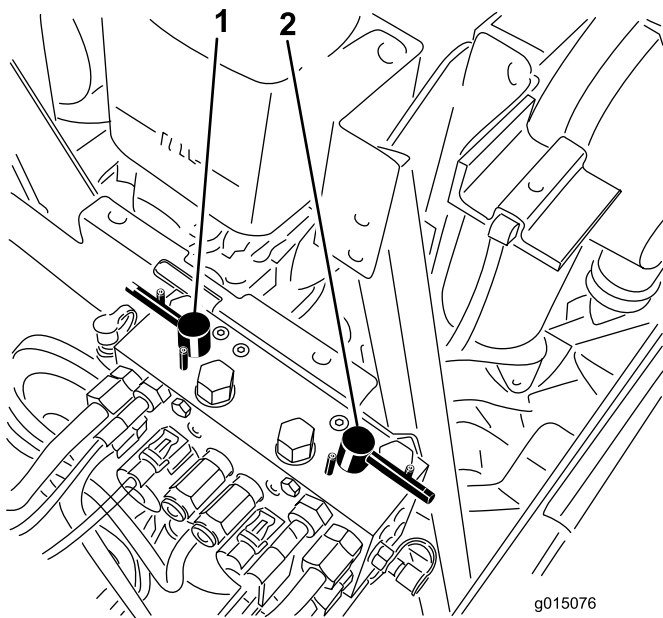

Figure 81
4. Select either front, rear or both backlap levers to determine which units to backlap (Figure 81).